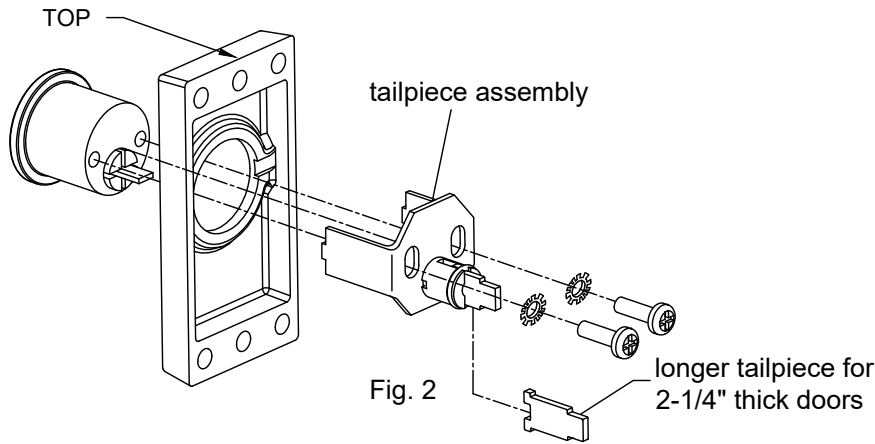

Fig. 2
2. Assemble the rim tailpiece assembly and cylinder as shown in Fig. 2 below.